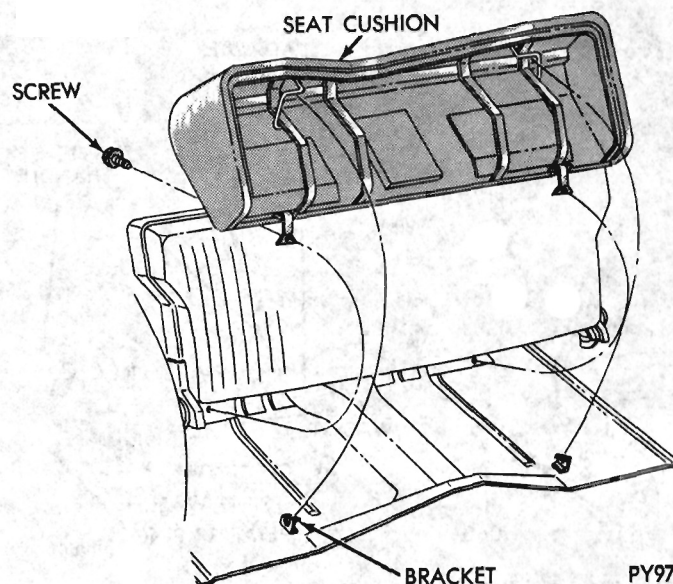

Fig. 33 - Second Seat Cushion
- (1) Raise rear floor hinged panel at rear of seat cushion assembly (Fig. 33) to expose seat cushion to floor pan attaching screws.
- (2) Remove screws attaching cushion to floor pan.
- (3) Move cushion slightly rearward to disengage locking bars at front bottom side of cushion and remove cushion.